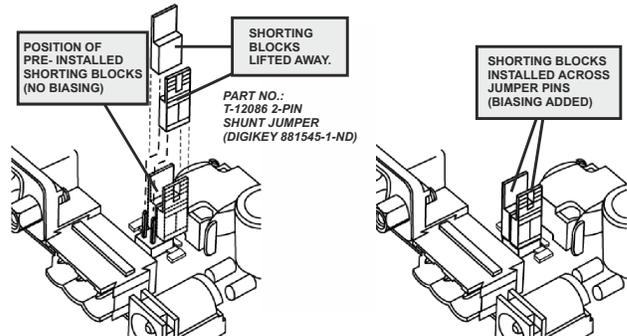

Fig. 12. Installing shorting blocks across both sides of the jumper block to add RS-485 biasing.
- Step 1** Locate the four jumper pins behind the RS-485 port. Newer units have two 2-pin shorting blocks pre-installed on one pin each. See Fig. 12.
- Step 2** To add biasing, install a shorting block across both pins on each side of the jumper block, shorting the pins as shown in the right-hand side of Fig. 12.